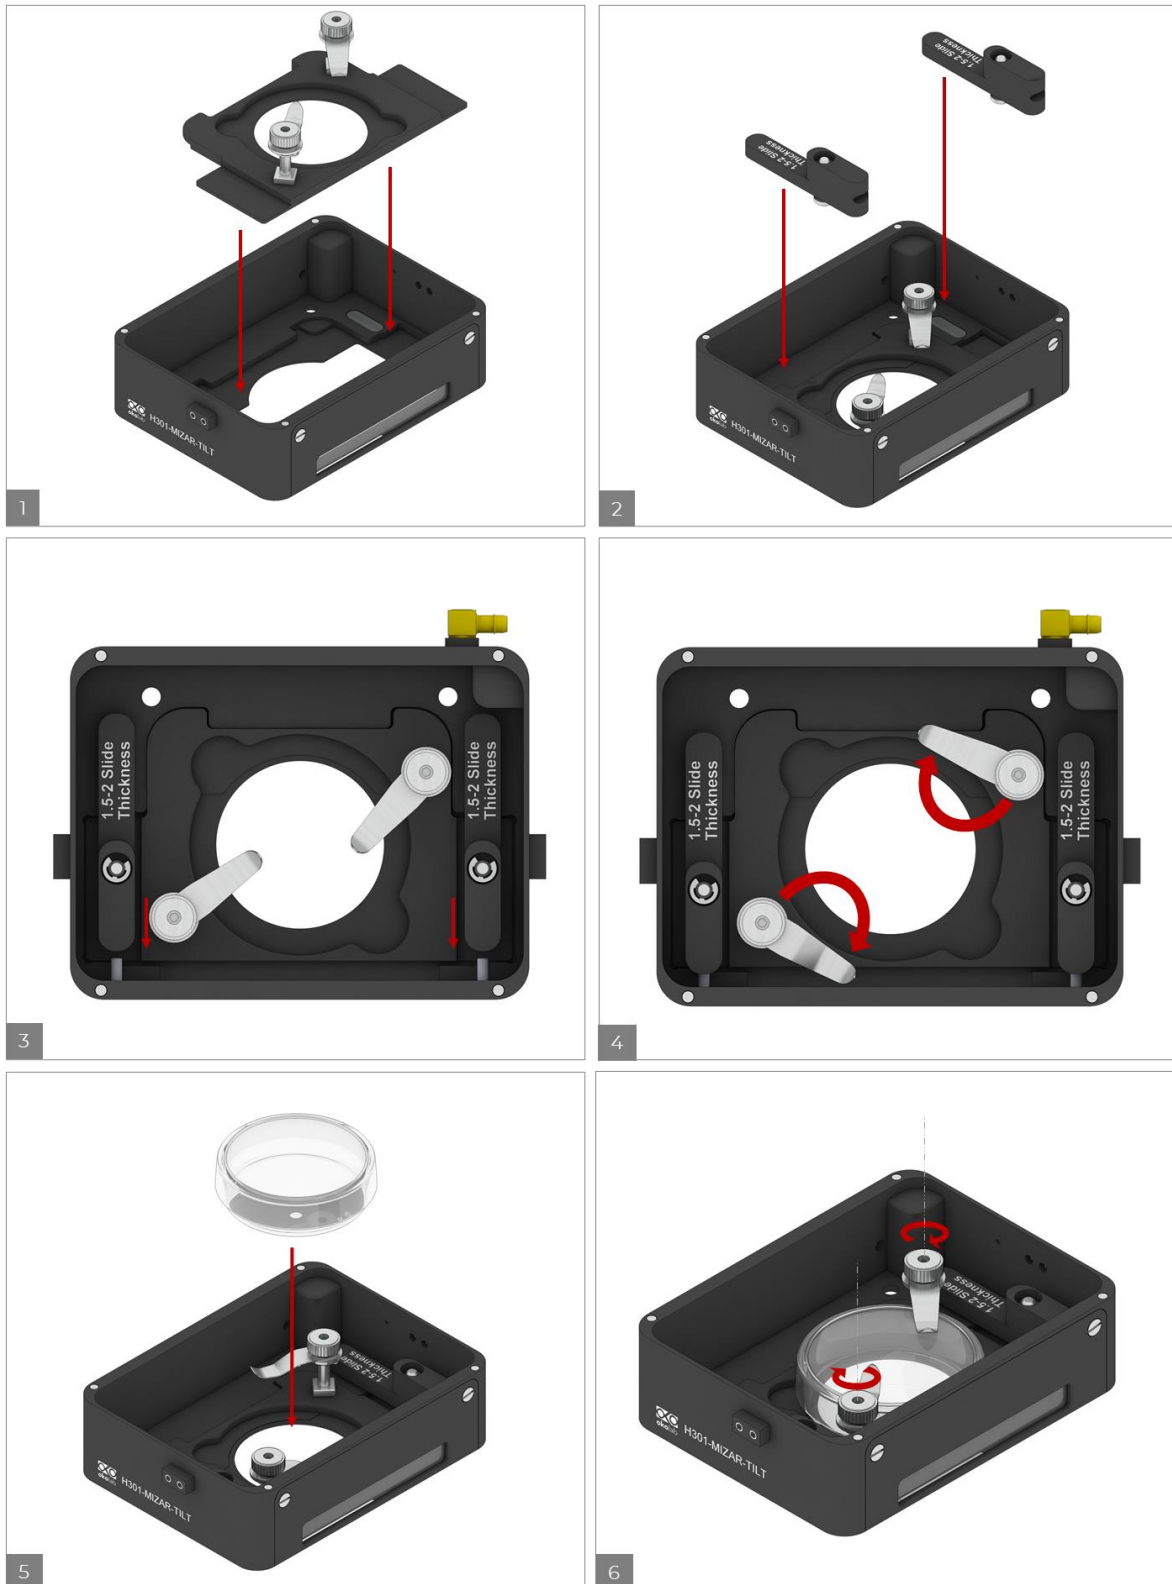

Figure 12. Working with 35mm petri dish.
Flat springs prevent movement of 35mm petri-dish inside the opening on the Chamber Base. To insert the MIZAR-1x35, follow the steps shown in Figure 12 and listed below:
1. Insert the MIZAR-1x35 into the Chamber Base (see image 1 in Figure 12).
2. Place the magnetic clamps over the MIZAR-1x35 (see image 2 in Figure 12), then push down the head of the clamps simultaneously and move it in the direction shown in the image 3 of Figure 12.
3. Turn the flat springs (see image 4 in Figure 12) and insert the petri-dish (see image 5 in Figure 12) into the sample holder.
4. Lock the petri-dish by using the flat springs (see image 6 in Figure 12).